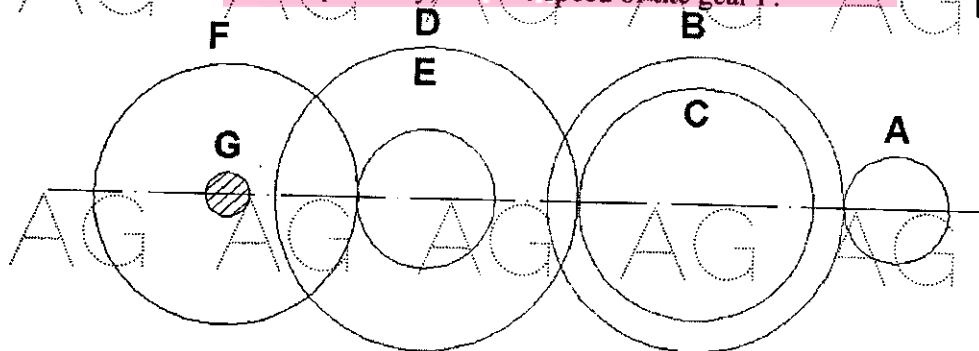

Figure: 4
b) The gearing of a machine tool is shown in Figure 4. The motor shaft is connected to the gear A, and rotates at 975 rpm. The gears B – C, and D – E are compound wheels fixed to parallel shafts, and rotate together. The final gear F is fixed on the output shaft 'G'. If the number of teeth on gears A, B, C, D, E, and F are 20, 50, 25, 75, 26, and 6 respectively, find the speed of the gear F. [5+5]